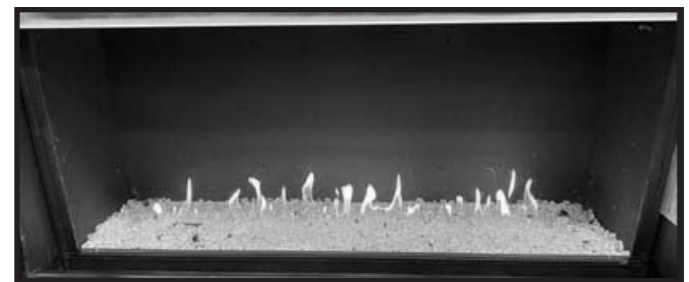

Figure 11.10 Lighting Complete
9. Reinstall the firebox glass and verify the entire burner lights completely. Repeat this process as necessary until complete lighting is achieved as shown in Figure 11.10.